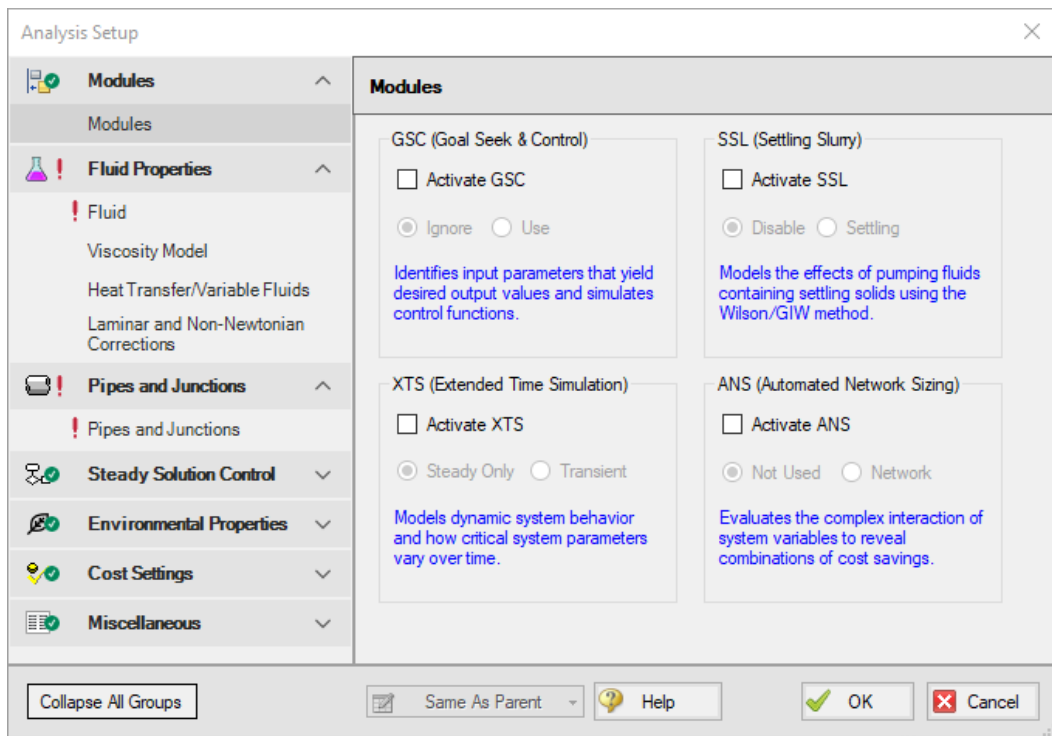

Figure 2.10 On the Modules panel, you can enable or disable any module
- **Next, click Analysis Setup on the Common Toolbar.** This opens the Analysis Setup window (see Figure 2.10). The Analysis Setup window contains various *groups* depending on which Add-on Modules you may be using. Each group has one or more *items*. A fully defined group has every item within it defined with all required inputs. Complete every group to run the Solver. A group or item that needs more information will have a red exclamation point to the left of the group or item name. After completing a group, the group icon shows a green circle with a checkmark. After defining all groups, thus completing the Analysis Setup, the Model Status light in the lower-right corner turns from red to green.
Under the Modules group, click on the Modules item to open the Modules panel, shown in Figure 2.10. Here you can enable and disable Add-on Modules. These Add-on Modules include Goal Seek & Control (GSC), Settling Slurry (SSL), Extended Time Simulation (XTS), and Automated Network Sizing (ANS). By default, the model will have all modules disabled. Therefore, make no changes to this panel for this example.